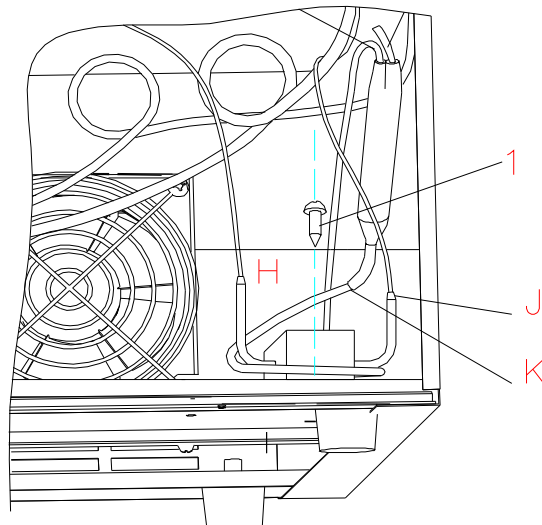

Fig. 8
- b. The refrigerator valve damage and can not be switch, cause not cooling, replace with the new one. (Fig.8)
a. Heat the solder joint H,K,J with soldering iron and take apart the valve. (Fig. 8)
b. Remove 2 screws(1) (Fig.8)